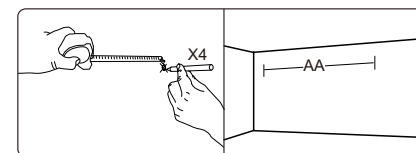

Figure 2
2. According to P distance, drill 4 holes in the wall with an electric drill, and put 4 pieces of $\phi 10 \times 40$ mm expansion bolts in the holes (Figure 2).